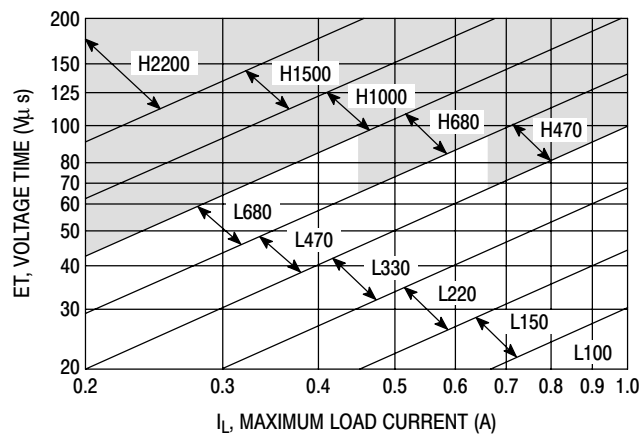

Figure 21. LM2575-Adj
4. Inductor Selection (L1) A. Use the following formula to calculate the inductor Volt x microsecond [V x μs] constant: $E \times T = (V_{in} - V_{out}) \frac{V_{out}}{V_{on}} \times \frac{10^6}{F[\text{Hz}]} \text{ [V x } \mu\text{s]}$ B. Match the calculated E x T value with the corresponding number on the vertical axis of the Inductor Value Selection Guide shown in Figure 21. This E x T constant is a measure of the energy handling capability of an inductor and is dependent upon the type of core, the core area, the number of turns, and the duty cycle. C. Next step is to identify the inductance region intersected by the E x T value and the maximum load current value on the horizontal axis shown in Figure 21. D. From the inductor code, identify the inductor value. Then select an appropriate inductor from the Table 1 or Table 2. The inductor chosen must be rated for a switching frequency of 52 kHz and for a current rating of $1.15 \times I_{load}$. The inductor current rating can also be determined by calculating the inductor peak current: $I_{p(\text{max})} = I_{\text{Load}(\text{max})} + \frac{(V_{in} - V_{out}) t_{on}}{2L}$ where t_{on} is the “on” time of the power switch and $t_{on} = \frac{V_{out}}{V_{in}} \times \frac{1}{f_{osc}}$ For additional information about the inductor, see the inductor section in the “External Components” section of this data sheet.	4. Inductor Selection (L1) A. Calculate E x T [V x μs] constant: $E \times T = (12 - 8.0) \times \frac{8.0}{12} \times \frac{1000}{52} = 51 \text{ [V x } \mu\text{s]}$ B. E x T = 51 [V x μs] C. $I_{\text{Load}(\text{max})} = 1.0 \text{ A}$ Inductance Region = L220 D. Proper inductor value = 220 μH Choose the inductor from the Table 1 or Table 2.